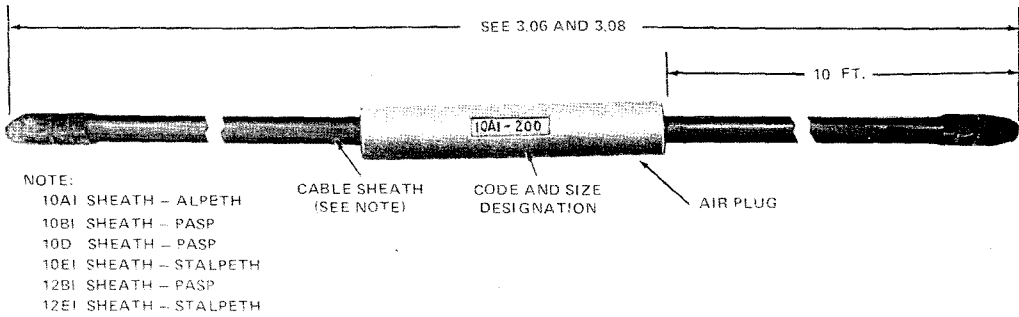

Fig. 1—101A Cable Stub
3.05 A 10A1 cable stub is illustrated in Fig. 1. The 10B1, 10D, 10E1, 12B1, and 12E1 cable stubs are similar in outward appearance to the 10A1 cable stub. Stub cable combinations are shown in Table A.